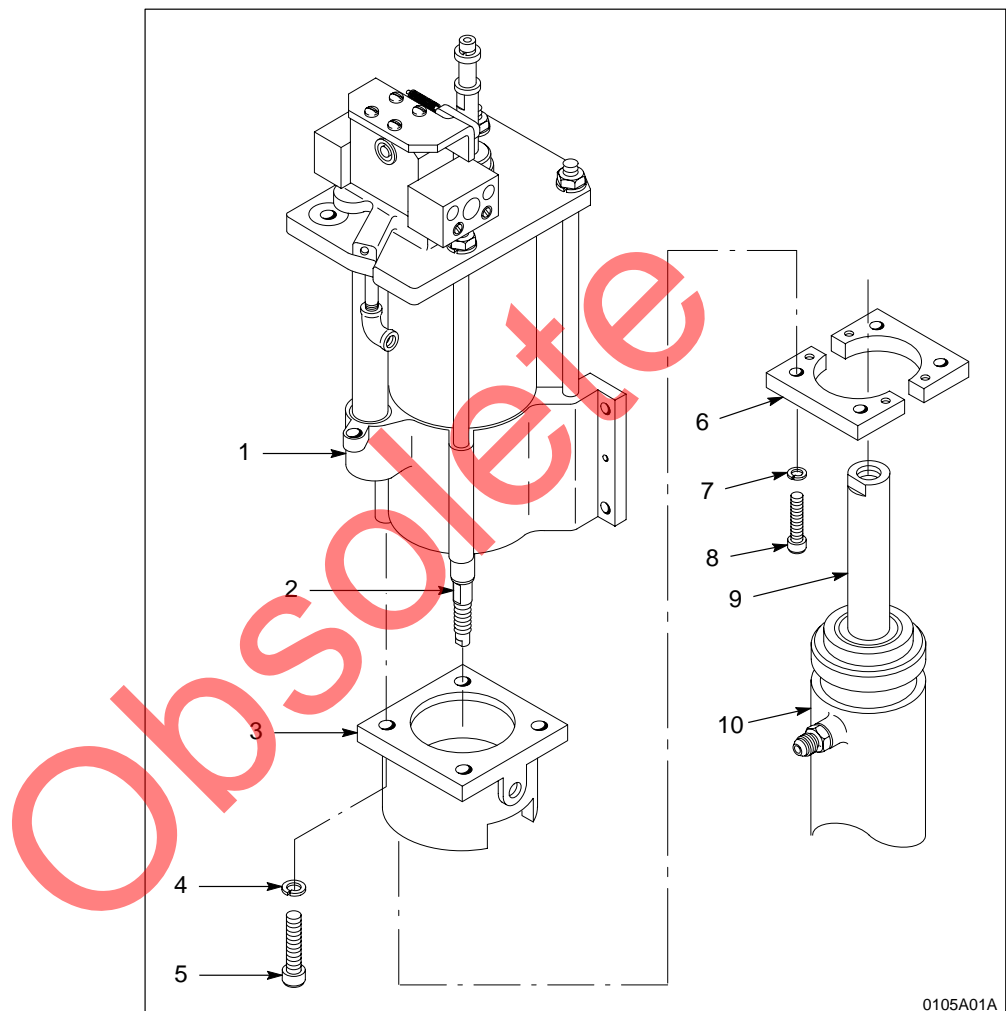

Fig. 1 Removing old two-piece retainer
5. See Figure 1. Remove the four screws and lock washers (5, 4) that secure the solvent chamber (3) to the lower cylinder head (1).